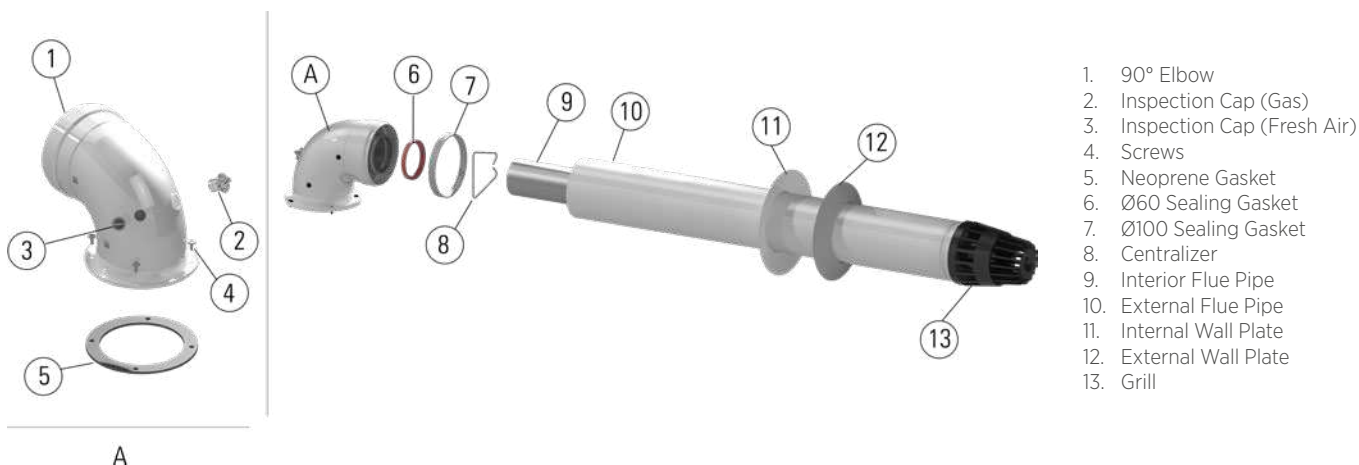

Figure 11 Hermetic combi homocentric flue set.
- Fix the flange under the elbow piece (1) by using the Flange Bolt (5) via Flange Connection Screws (4) to holes on the combi.
- 2 x Ø60 Sealing Gasket (6) are placed into internal pipe slots at both ends of the 90° elbow.
- Place the Ø100 Sealing Gasket (12) on the 90° elbow contacting with the restrictive set.
11-12. for grouping the flue output terminal. After placing the flue output terminal through exterior of wall and the previously made hole, fix the Internal Wall Plate (11) into the flue terminal. Place, 90° flue elbow of your combi coupled tightly to the flue output terminal (Figure 12). Then fit the outer and inner wall flanges (Fig.11_11-12) on the terminal pipe (Fig.12). Finally, push the Internal Wall Plate to the wall surface and ensure flue and wall impermeability.